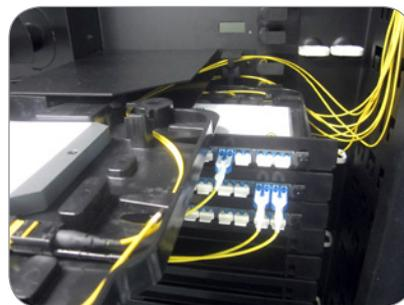

Figure 7.
- The incoming MTP leads(s) can be connected to the rear of the cassette and the cable managed as shown in **Figure 7**